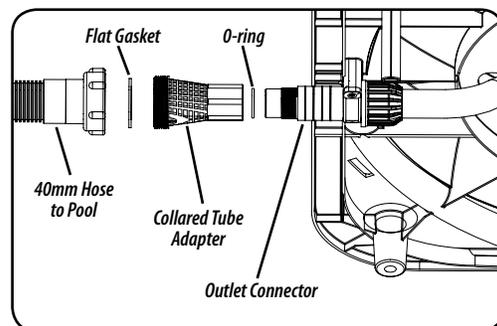

Figure 4
1. Attach the collared tube adapter with o-ring to the central hose connector under the base. Make sure the o-ring is in the collared tube adapter prior to attachment (see figure 4).